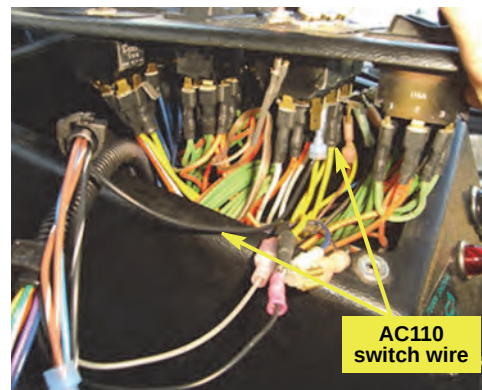

Figure 2e: AC110 switch wire
- f. Connect the AC110 boom 1 switch wire to the positive signal terminal of the Spra-Coupe boom 1 switch (Figure 2e). See Table 3 following for the appropriate connections. See also “Appendix - AC110 Cables and Connections” on page 7.